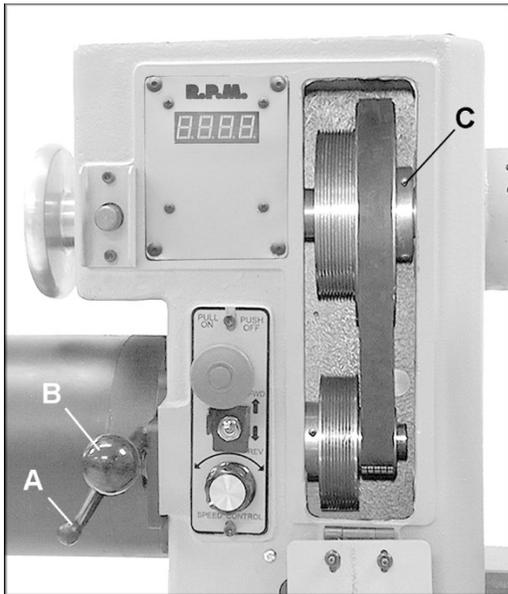

Figure 22
3. Loosen the pivot lock handle (A, Figure 22) and lift up the tension handle (B, Figure 22) to raise the motor. Tighten the pivot lock handle (A, Figure 22) to hold the motor in the raised position.
5. Loosen the pivot lock handle (A, Figure 22) and lower the motor to tension the belt. Be sure that the Poly-V grooves of the belt seat properly in the corresponding groove of the sheave. Do not over tension; a very light pressure on the tension handle (B, Figure 22) is adequate to prevent belt slippage.
6. Tighten the pivot lock handle (A, Figure 22).
The motor and spindle sheaves are aligned with each other at the factory, but if any service is performed that affects their alignment it is very important that they be realigned. To realign them, loosen the two set screws on the spindle sheave (C, Figure 22) with a hex wrench, and slide the spindle sheave into the proper position. Re-tighten set screws.
2. Loosen the pivot lock handle (A, Figure 22) and lift up the tension handle (B, Figure 22) to raise the motor.
3. Tighten the pivot lock handle (A, Figure 22) to hold the motor in the raised position. Slip the belt off the pulleys.
7. If replacing the spindle sheave, loosen the two set screws (C, Figure 22), and slide the sheave off the spindle.